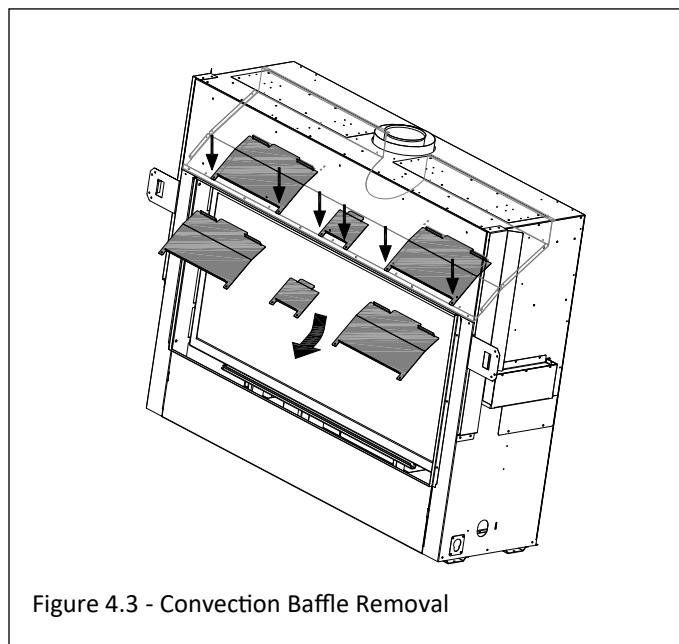

Figure 4.3 - Convection Baffle Removal
3. Locate the (3) convection baffles as shown in Figure 4.3. There are (2) screws that secure each convection baffle. Remove the screws and convection baffles from the fireplace. Discard the screws and convection baffles.